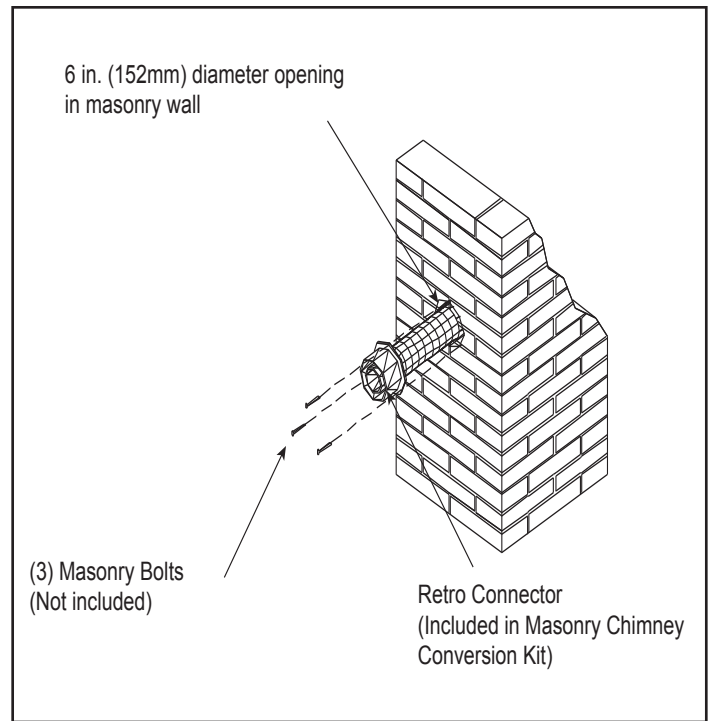

Figure 4.22
9. Attach the flex to the retro connector. Use three sheet metal screws to attach the flex liner to the connector. Mount the retro connector to the masonry wall using masonry bolts. See Figure 4.22. Redrill larger holes on connector as needed. Be careful to ensure that the connector is centered in the opening and the mounting holes line up with the masonry wall.